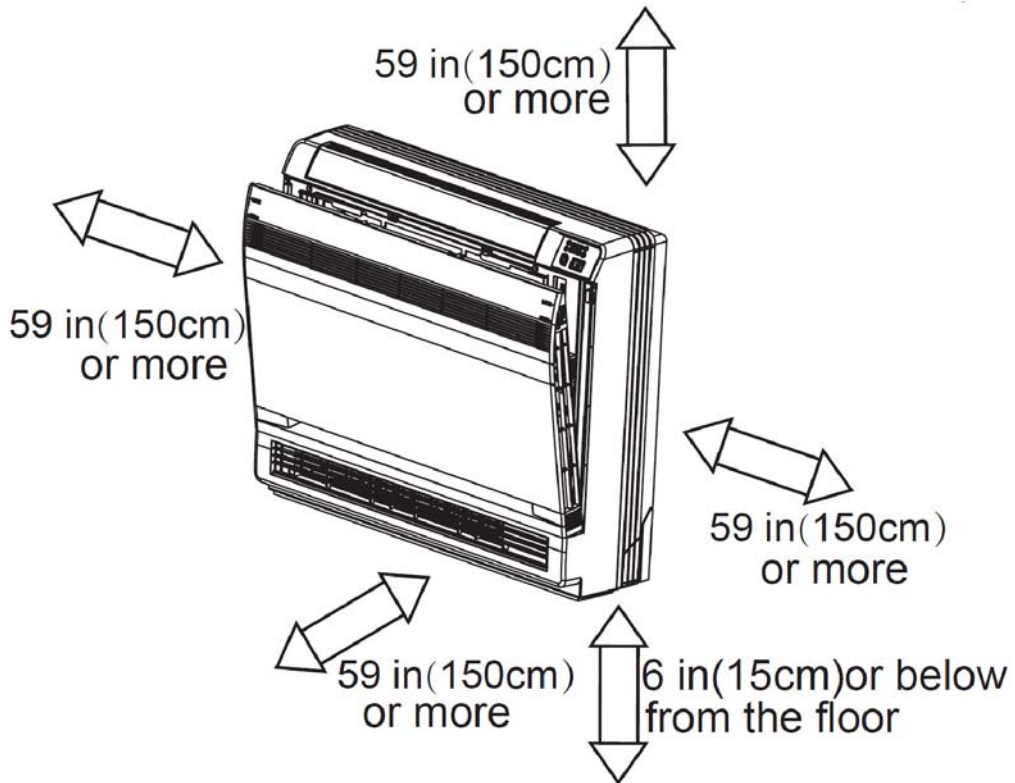

Fig. 17 - Floor console clearance
- A location which provides appropriate clearances (see Fig. 17 and Fig. 18).